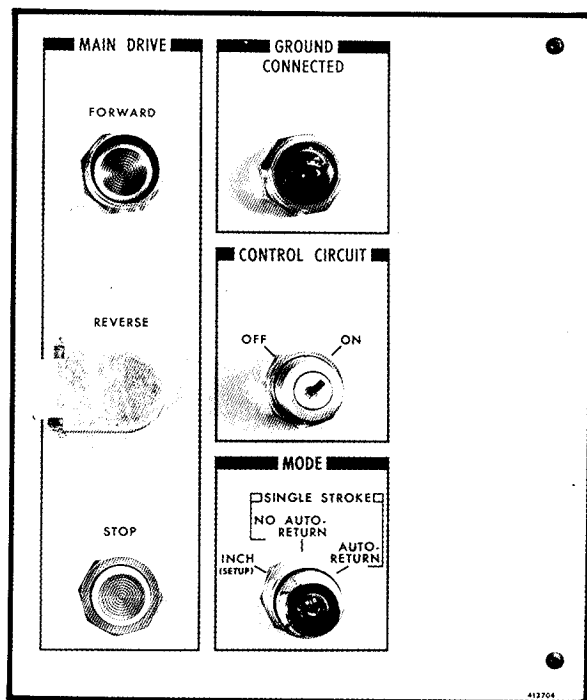

FIGURE 43
1. ELECTRICAL CONTROL PANEL - STANDARD CLUTCH MACHINES (FIGURE 43)
The electrical control panel for Press Brakes with air-electric clutch control or electric-air disc clutch and brake is located on the main electrical enclosure. This enclosure is on the housing or on a metal bracket attached to the housing. The standard controls are shown in Figure 43: